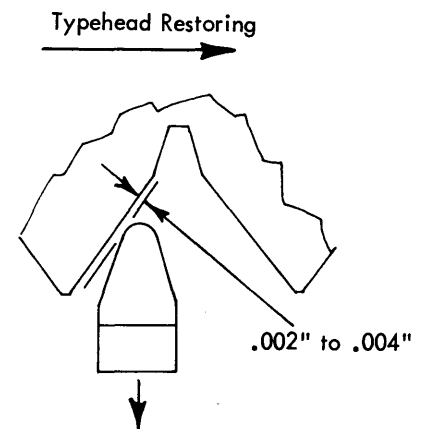

FIGURE 68b. Withdrawal Clearance For The "M" (-5)
b. Machines Not Equipped With An Impression Control Lever - Hand-cycle an upper case "M" (-5) and observe the rotate detent as it operates in the type-head notch. The detent must enter the correct detent notch and withdraw without restricting the restoring of the typehead. There should be .002" to .004" backlash felt in the typehead when the detent has withdrawn approximately half-way down the slope of the detent notch (Fig. 68b).